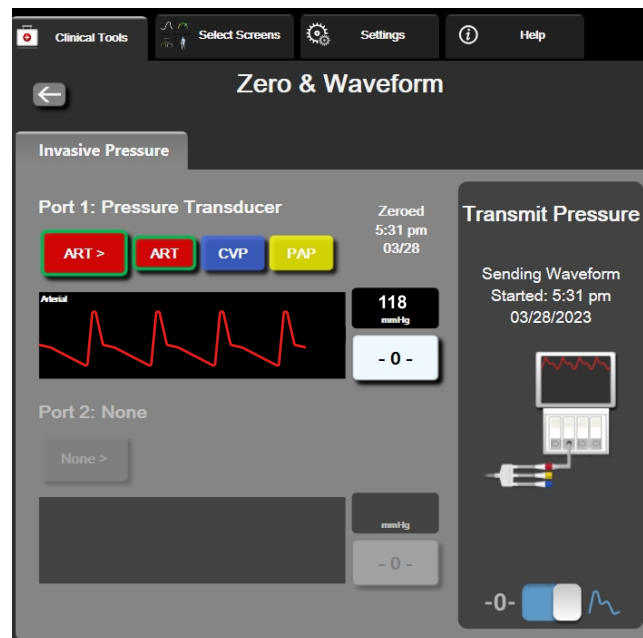

Figure 10-2: Zero & Waveform screen – Zero sensor and Pressure-Out
6. Toggle to the **Transmit Waveform** icon  to begin pressure signal output to the patient monitor. A "**Sending Waveform Started:**" message with the timestamp is displayed when the live waveform is being transmitted to the connected patient monitor. See Figure 10-2 on page 197.